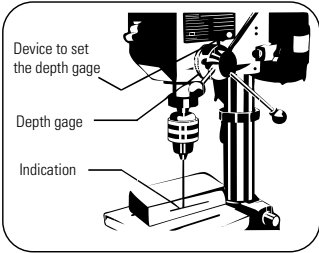

FIGURE 8.13
- The drill bit will stop at the adjusted depth level while no alteration is made on the depth gage (Fig. 8.13 and 8.14).